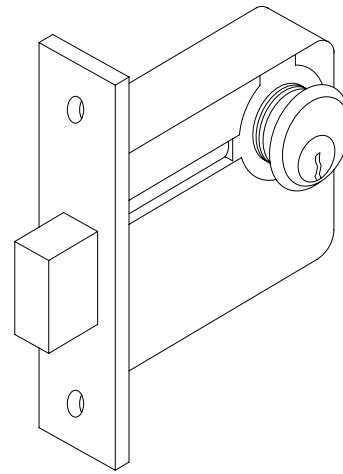

FIGURE 9b
2. The Mortise Deadlock, Figure 9b, is a mortise lock with a deadbolt only. (A deadbolt is a lock bolt which has no bevel or spring action and is operated by a key or turn piece.) It is often used for locking a door having push or pull plates or for providing added security on doors with cylindrical locks.